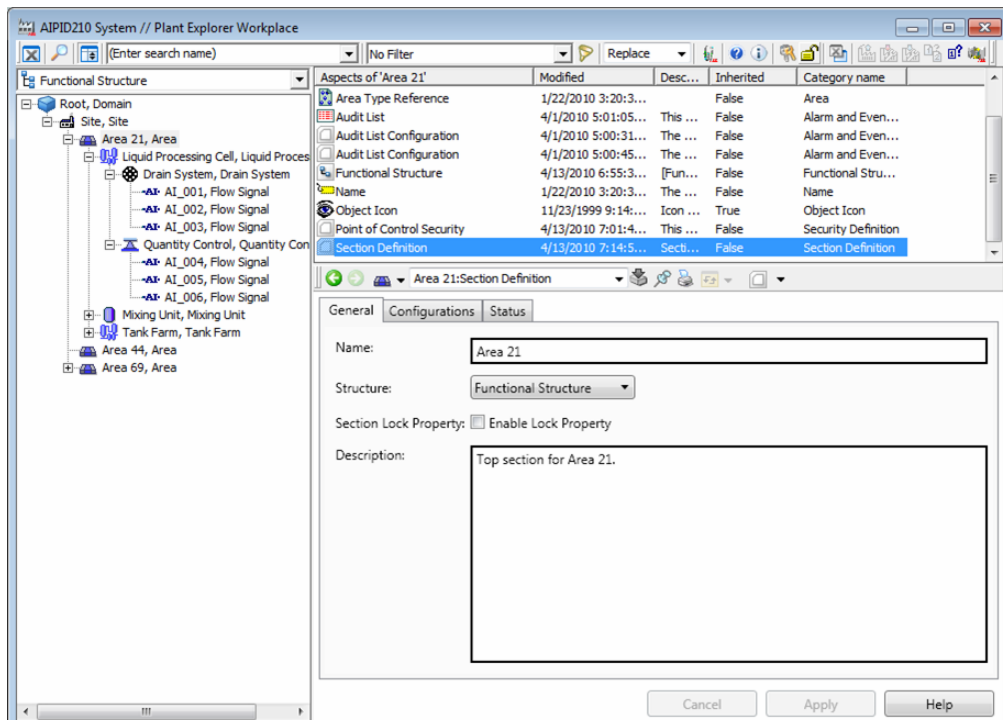

Figure 135. Section Definition Configuration
1. Create a Section Definition aspect on the top object of a section (refer to Figure 135).
- a. Enter a **Name** and **Description** for the section (refer to Figure 135).